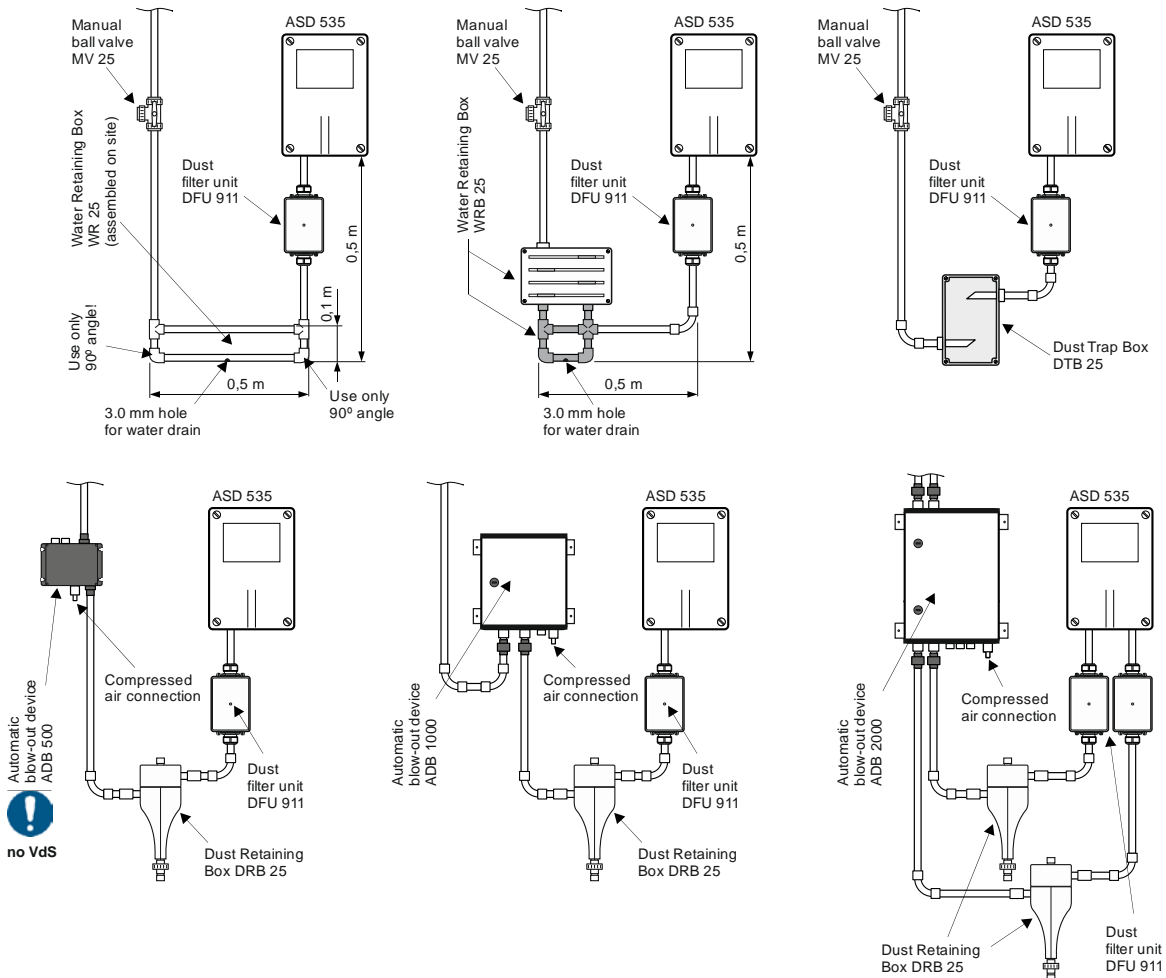

Fig. 32 Mounting accessory parts
- The mounting positions of water retaining box, dust trap box and dust retaining box must be observed as shown in Fig. 32.